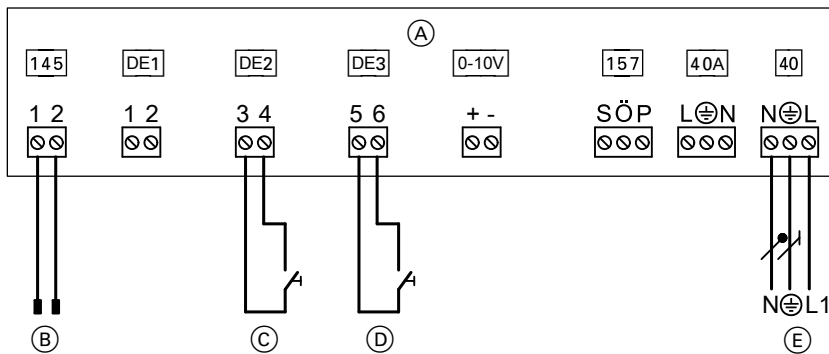

Fig. 48
- To EA1 extension as shown in Fig. 48